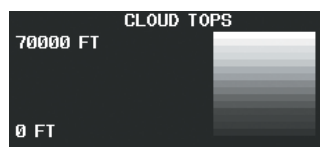

Figure 6-17 Cloud Tops Legend
- 1) Select the Weather Data Link (XM) Page.
To display the Cloud Tops legend (Figure 6-17), select the **LEGEND** Softkey when Cloud Tops is selected for display. Since Cloud Tops and Echo Tops use the same color scaling to represent altitude, display of these weather products is mutually exclusive. When Cloud Tops is activated on the Weather Data Link (XM) Page, the system disables the Echo Tops weather product.